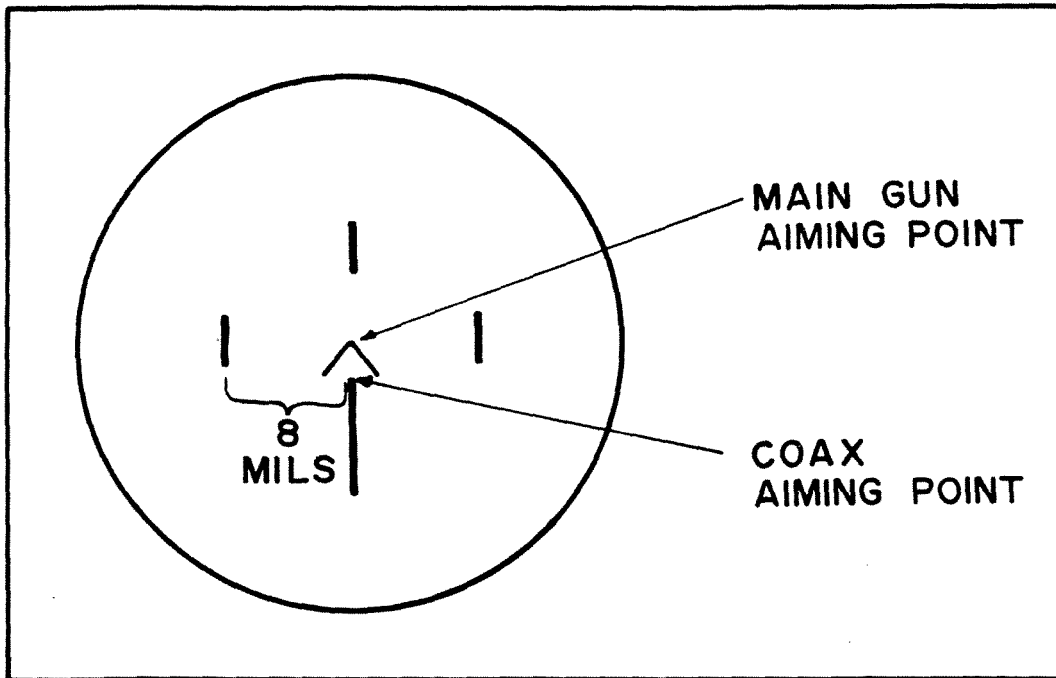

FIG. 3-116. TPN 1-41-11 GUNNER'S PERISCOPE RETICLE
g. Night Firing. The TPN 1-41-11 IR periscope is the gunner's primary sight for night engagements. Used in conjunction with the L-2G main IR searchlight, this periscope enables the gunner to engage targets at 800 meters, the effective range of the searchlight. To place the TPN 1-41-11 into operation, see paragraph 3-9b. The TPN reticle (Fig. 3-116) is used for ranging, employing the formula.